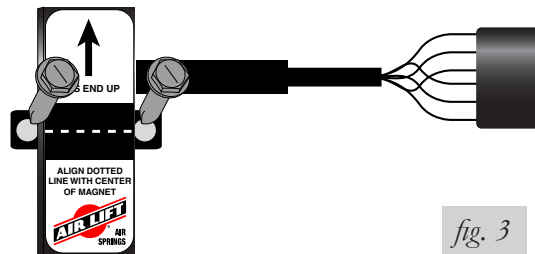

fig. 3
- Using the provided screws and nyloc nuts, attach the height sensor to the chosen frame-mounting location (fig. 3).